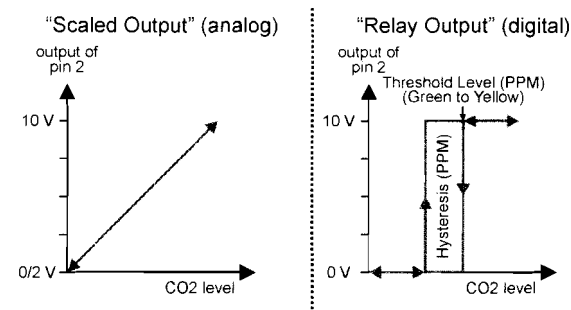

Fig. 3. Configuration of pin 2 and resultant output
See Fig. 3 for the resultant output of pin 2 and (in the case of the C7110C) the corresponding behavior of the CO₂ level LED.
6. Make sure that the dial's position is such that the 30 (Celsius absolute scale) or the +5 (Celsius relative scale) point to the right-hand side of the wall module (see Fig. 3).
- Fig. 3. Mounting position of setpoint dial